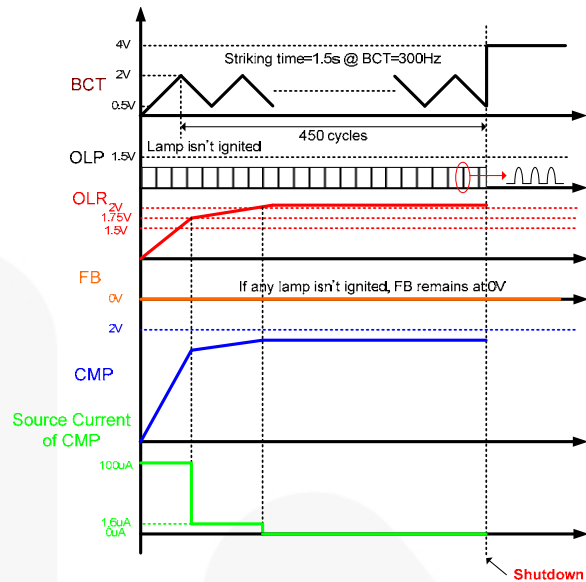
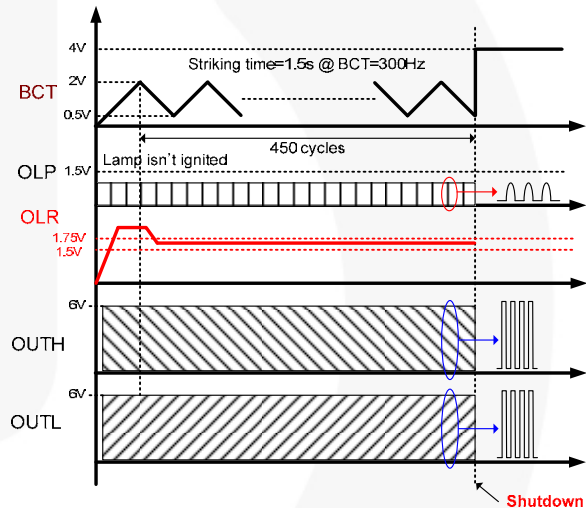
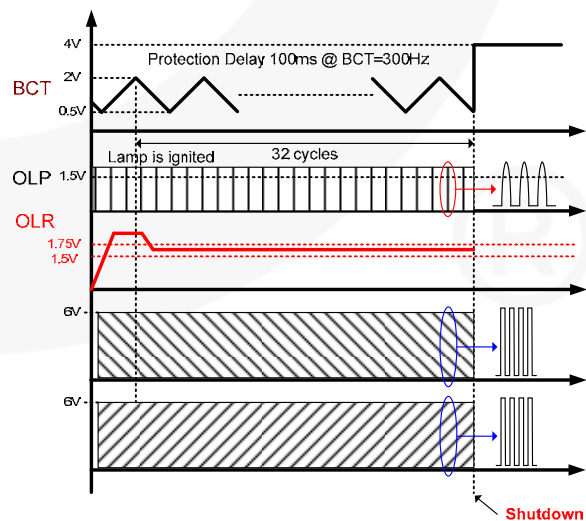

Figure 37. Open-Lamp Regulation in Striking Mode
Figure 38. Open-Lamp Regulation in Striking Mode
Figure 39. Open-Lamp Regulation in Normal Mode
**Open-Lamp Regulation:** When a voltage higher than 2V is applied to the OLR pin, the IC enters regulation mode and controls CMP voltage. The IC limits the lamp voltage by decreasing CMP source current. If the OLR voltage is higher than 1.75V, CMP source current decreases from 100μA to 1.6μA. If the OLR voltage reaches at 2V, CMP source current decreases to 0μA, so CMP voltage remains constant and the lamp voltage also remains constant, as shown in Figure 37. At the same time, the counter based on BCT time starts counting 450 cycles and 32 cycles at striking mode and normal mode, respectively, then the IC enters shutdown, as shown in Figure 38 and Figure 39.